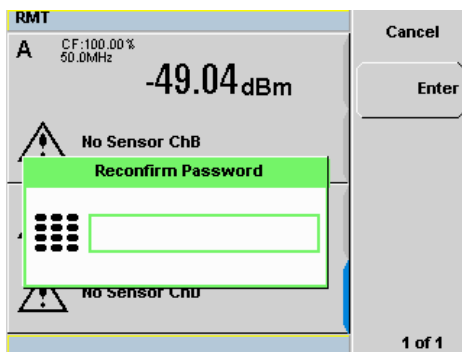

Figure 2-46 Reconfirm password
- 6 The reconfirm password pop-up will be displayed (see Figure 2-46). You will be prompted to enter the password again for confirmation.